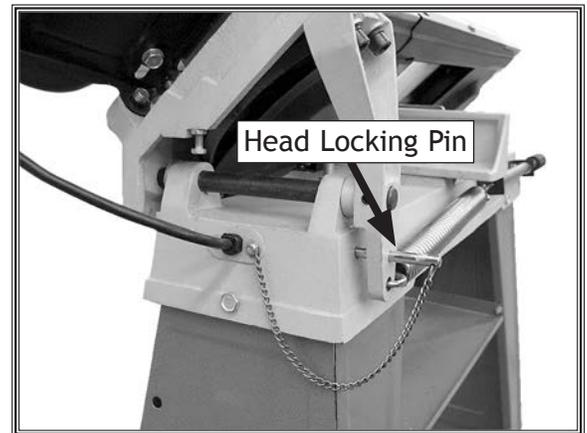

Figure 26. Head locking pin correctly installed.
2. Fully lower the head down, then insert the locking pin through the holes in the head pivot arm and base, as shown in **Figure 26**.